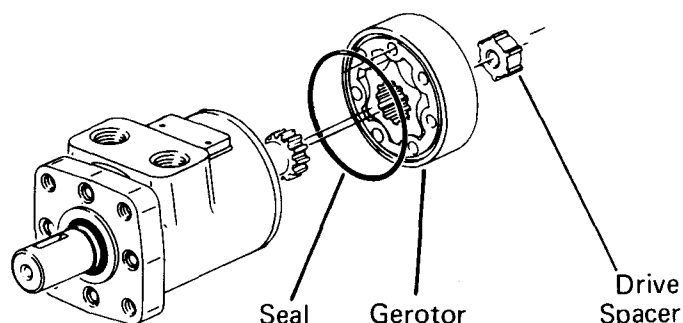

Figure 25
**44** Install 2-7/8" I.D. seal in gerotor seal groove, see Fig. 25.